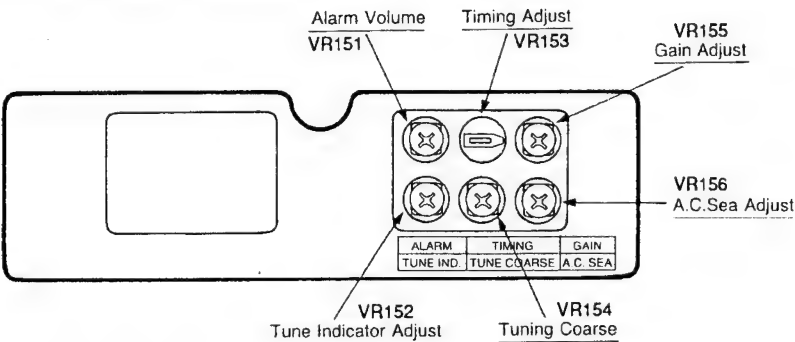

Fig. 51
- (1) Operate the radar in the 16-mile range.
- (2) Turn the gain control clockwise and the A.C. Sea clutter knob counterclockwise on the display unit as far as they will go.
- (3) Press the FUNC and IR keys to turn off the interference rejection (IR) mode. Some noise will now appear on the screen. If not, adjust VR155 on the adjustment board (Refer to Fig. 51).
- (4) Check that the noise disappears from the screen when the gain knob position is set to within the 2 to 4 o'clock direction.
Use VR151 on the adjust board to adjust the volume to an appropriate level (Refer to Fig. 51).